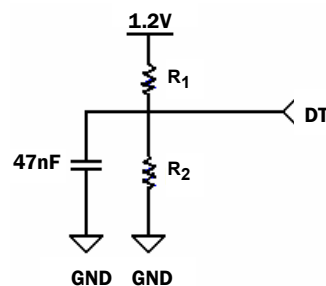
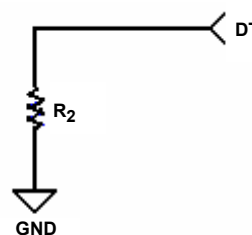

FIGURE 33A.
FIGURE 33B.
The QLx4600-SL30 is capable of maintaining periods of line silence on any of its four channels by monitoring each channel for loss of signal (LOS) conditions and subsequently muting the outputs of a respective channel when such a condition is detected. A reference current applied to the detection threshold (DT) pin is used to set the LOS threshold of the internal signal detection circuitry. Current control on the DT pin is done via one or two external resistors. Nominally, both a pull-up and pull-down resistor are tied to the DT pin (Figure 33A), but if adequate control of the supply voltage is maintained to within  $\pm 3\%$  of 1.2V, then a simple pull-down resistor is adequate (as in Figure 33B). Resistors used should be at least 1/16W, with  $\pm 1\%$  precision.
The internal bias point of the DT pin, nominally 1.05V, is used in conjunction with the voltage divider ( $R_1$  and  $R_2$ ) shown in Figure 33A to set the reference current on the DT pin.
For channels exhibiting more than 25dB of total loss (this includes cable or FR-4 loss) the DT pin should be configured for a reference sink current (coming out of the DT pin) of approximately 2 $\mu$ A. A typical configuration for a 2 $\mu$ A sink current is given in Figure 33C. If the configuration in Figure 33B is utilized, a 525k $\Omega$  resistor would be used.